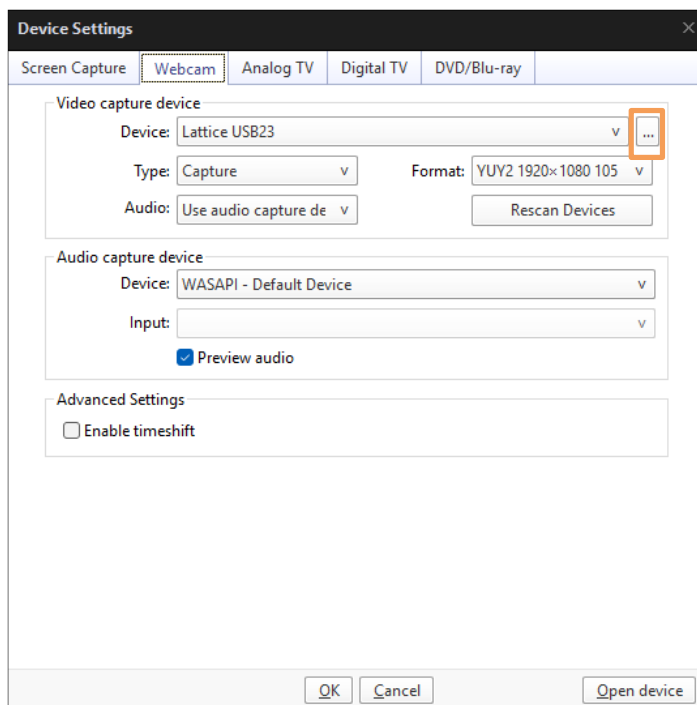

Figure 7.3. Camera Control Setting in PotPlayer 1
- (Optional) To adjust exposure, re-open **Device Settings**, as shown in the previous steps. Then, click the triple-dot menu to show the **Camera Control** menu (Figure 7.3).